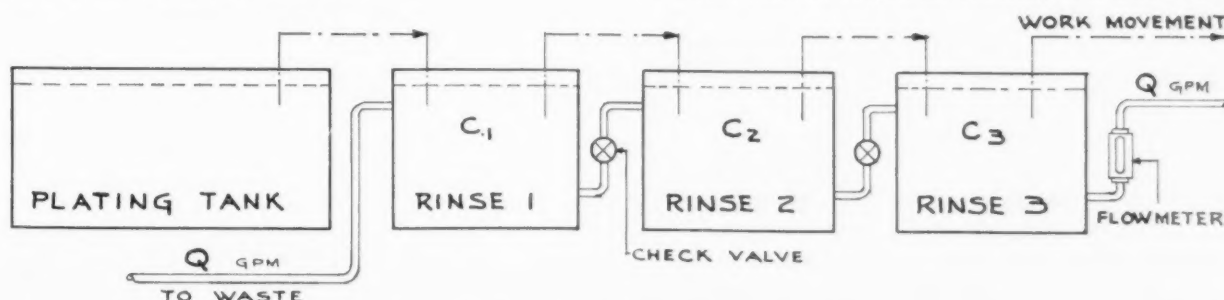

Figure 5. Cascade, or series, feed of rinse tanks.
Where n is the number of tanks or compartments, and the other symbols have the same meaning as before. This expression holds strictly true where each tank is individually fed with water (parallel connection) Fig. (4) and is approximately true where the tanks are fed in cascade (series) Fig. 5, provided pQ is at least 100 times greater than θ .